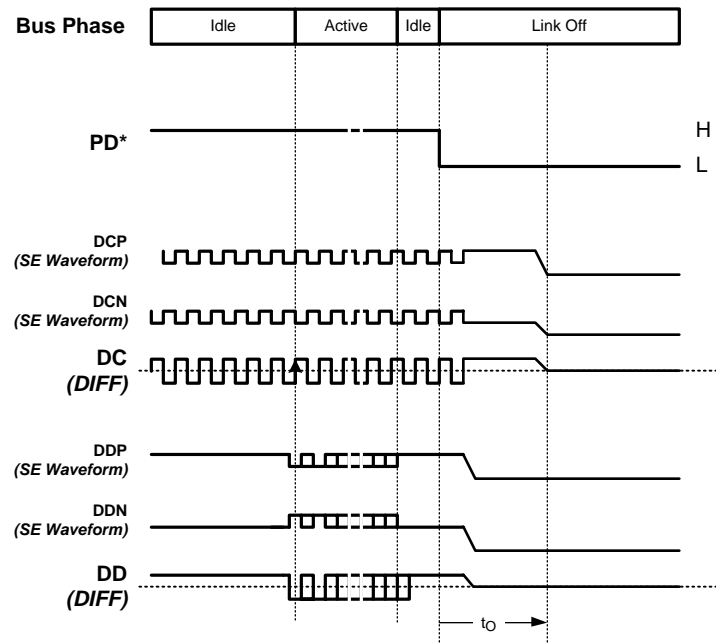

Figure 7. Serial Bus Power Down Timing
(5) Specified functionally by the  $I_{DDZ}$  parameter. See also Figure 7.
In the OFF phase, differential transmitters are turned off and the lines are both driven to Ground. Figure 7 shows the transition of the serial bus into the OFF phase. The link may be powered down by asserting Master and Slave PD\* pins, the Master PD\* pin alone or stopping the clock. To avoid loss of data the clock input should only be asserted after the serial bus has been in the IDLE state for at least 100 DC clock cycles. This also applies to when Master's PD\* input is asserted. The 100 DC clock cycles give the Slave enough time to complete any write operations received from the serial bus.